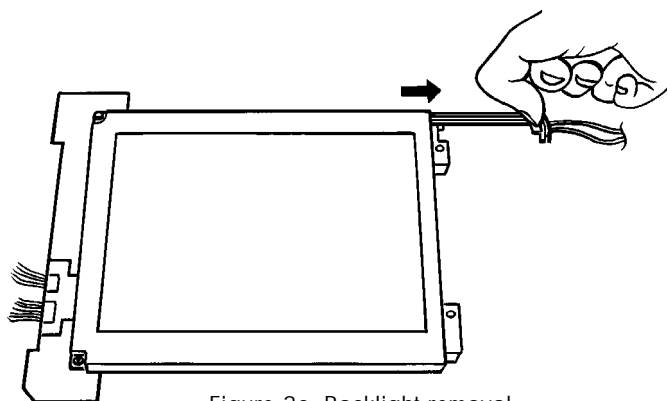

Figure 3c Backlight removal
- 5 The backlight unit can now be pulled out as shown in figure 3c and replaced with the new unit.